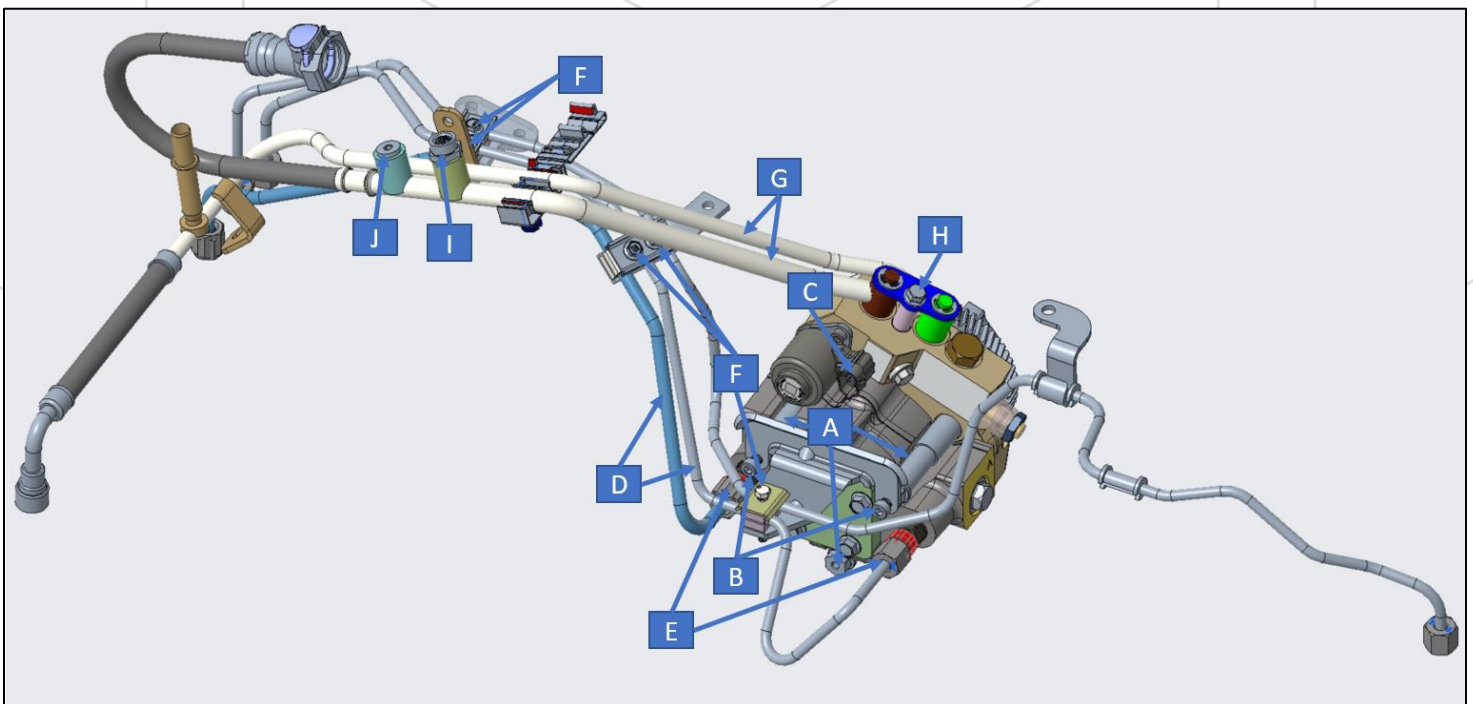

Figure 30: DCR Pump Assembly
### 11. Use the three OEM pump mounting stud / nuts to secure the pump in place (Labeled as A in Figure 30).
- c. Install the provided High-Pressure Fuel Line Tail Support Bracket to the OEM pump mounting nuts reusing the factory bolts (Labeled as B in Figure 30).
**17. Connect the fuel control actuator (FCA / VCV) electrical connector to the pump (Labeled as C in Figure 30).**
**22. Install the supplied low-pressure line assembly into the DCR ports (Labeled as G in Figure 30).**
- b. Install blue thread-locker on the line assembly to pump inlet OEM hold-down bolt (H in Figure 30)
**25. Connect the electrical connectors on the sensors of the new fuel supply lines (Labeled as I and J in Figure 30).**